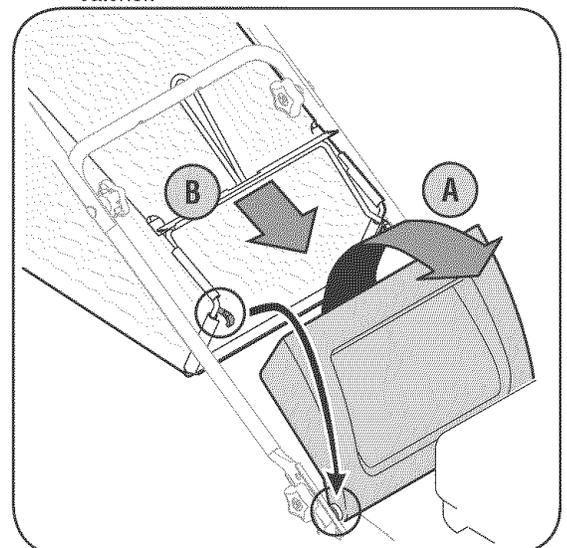

Figure 3-4: Lift discharge door and place grass catcher on rod.
7. To attach grass catcher, Figure 3-4.